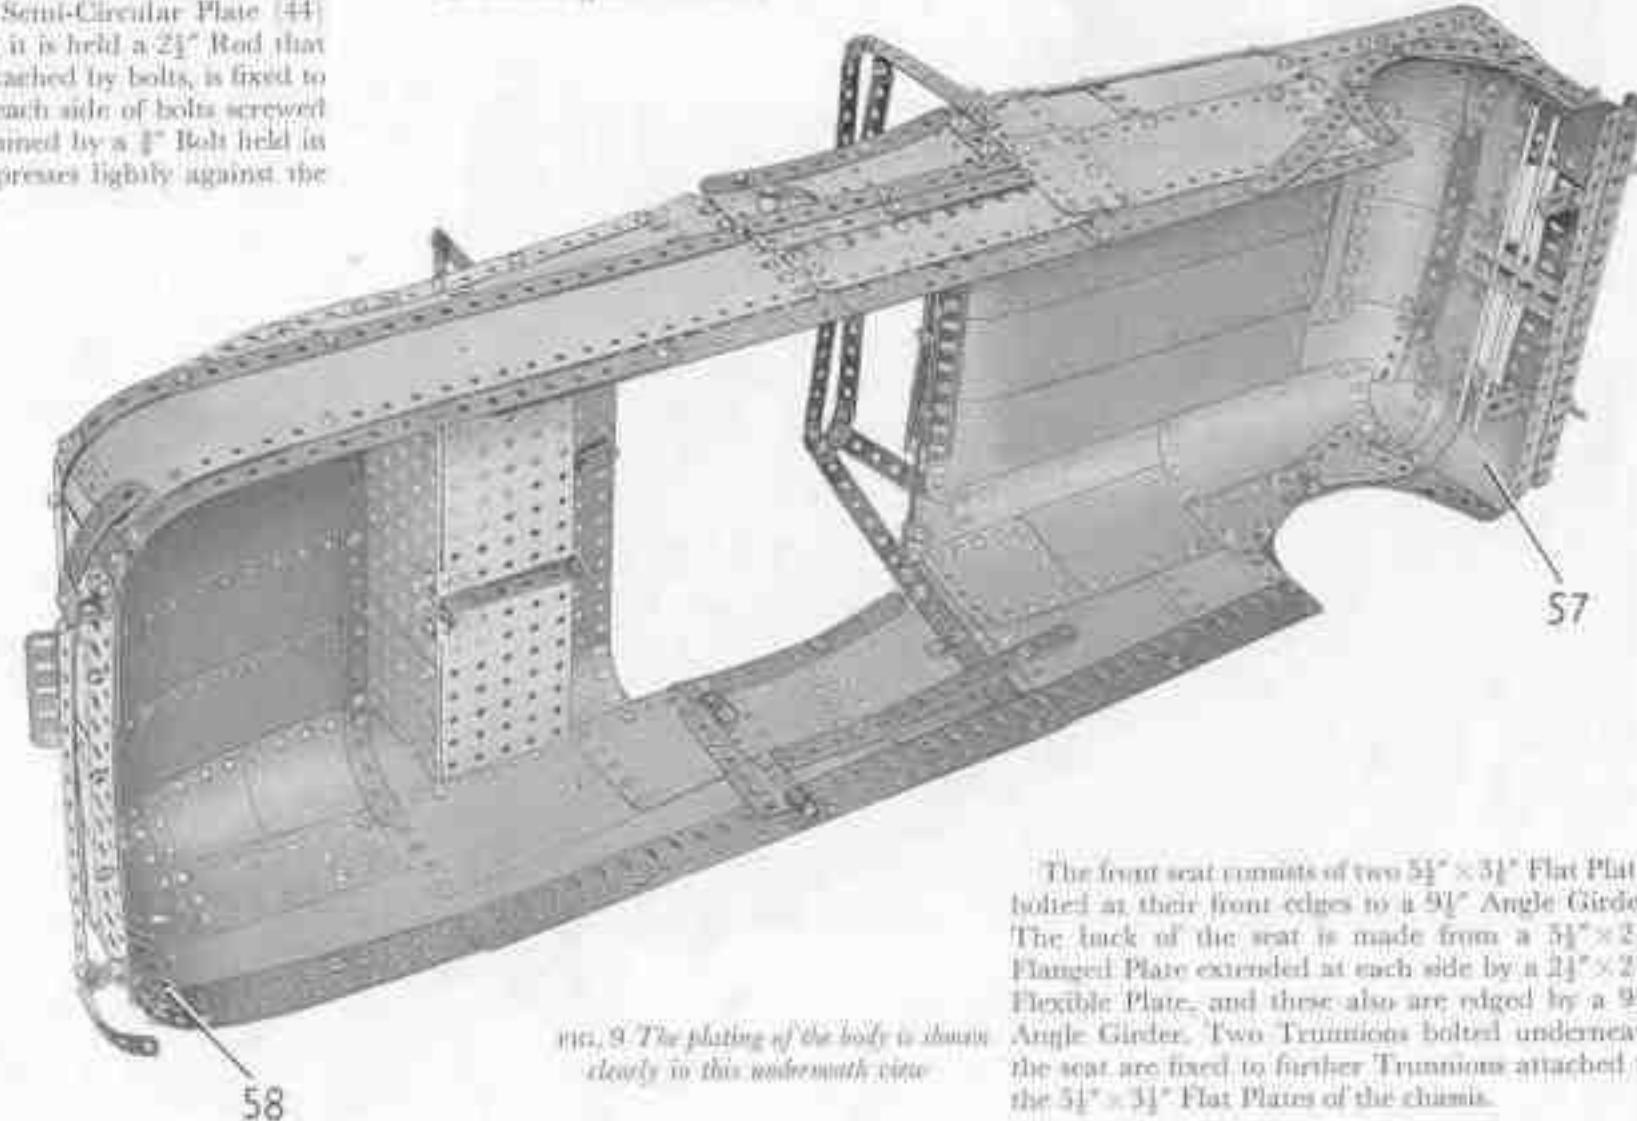

FIG. 9. The plating of the body is shown clearly in this underneath view
attached to the front by Angle Brackets, and this supports a  $9\frac{1}{2}''$  Angle Girder that forms the front bumper. The Plates (57) are extended upward by  $5\frac{1}{2}'' \times 1\frac{1}{2}''$  Flexible Plates, which are joined at their inner ends to a  $2\frac{1}{2}'' \times 1\frac{1}{2}''$  Flexible Plate. The inner edges of the Plates (57) and the  $5\frac{1}{2}'' \times 1\frac{1}{2}''$  Flexible Plates are strengthened by two  $2\frac{1}{2}''$  Curved Strips and a  $5\frac{1}{2}''$  Curved Strip. Two  $8''$  Rods are held by Spring Clips in  $2\frac{1}{2}''$  Angle Girders bolted vertically to the front (see Fig. 9).